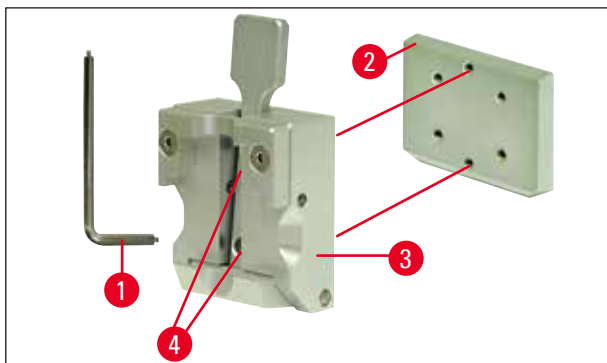

Fig. 10
- To remove the dovetail guide (→ Fig. 10-2) from the specimen clamp (→ Fig. 10-3), unscrew the two screws (→ Fig. 10-4) from the dovetail guide (→ Fig. 10). Again, use the Hexagon key with handle, No. 3.